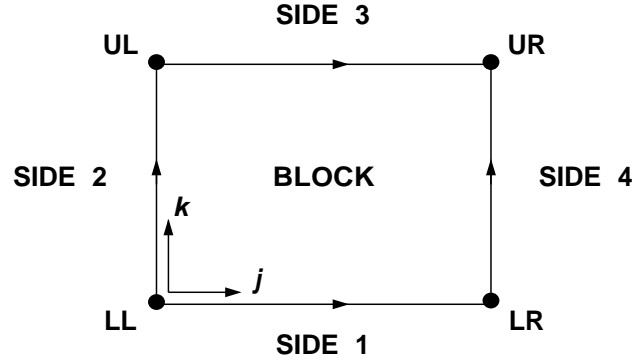
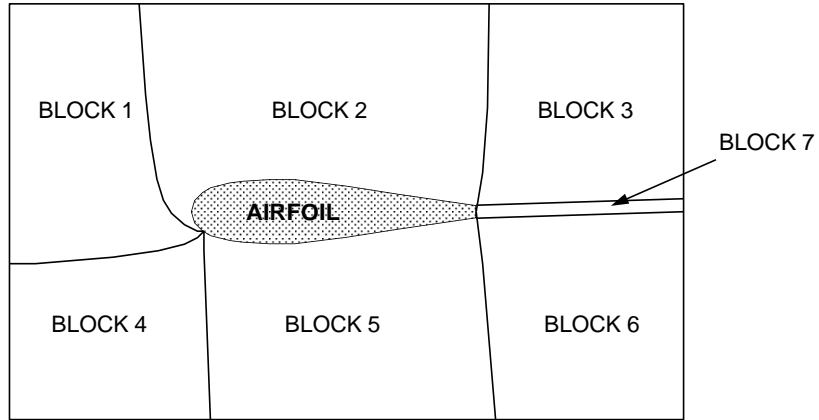

Figure 2.1: Side numbering and direction conventions for an arbitrary block
Figure 2.2: Simple H-domain decomposition showing block numbers.
figure 2.1, while the block and side numbering convention for a simple single element airfoil with a H-domain and a C-domain are shown in figures 2.2 and 2.3. *DECFILE* is always created and defaults to 'g.dec'.
7. *STGFILE* (SinGular point FILE). This file contains the description(s) and location(s) of all singular points in the decomposed domain. The flow solver *TORNADO* requires this input. The first three lines are descriptors and are not used. Columns two and three contain the block number (integer) containing the singular point. The location of the singular point is contained in columns 12 and 13 and is one of the following: “UL” (Upper Left), “UR” (Upper Right), “LL” (Lower Left), or “LR” (Lower Right). This input describes the corner of the block number that the singular point lies at using the convention shown in figure 2.1. The last input (columns 22 and 23) define the type (“LE” for Leading Edge, and “TE” for Trailing Edge). Note that for a blunt trailing edge airfoil, there are two trailing edge singular points to be defined. Also, for a C-Mesh domain, there is no leading edge singular point, as there are no streamlines or equipotential originating from this region. *STGFILE* is always created and defaults to ‘g.stg’.